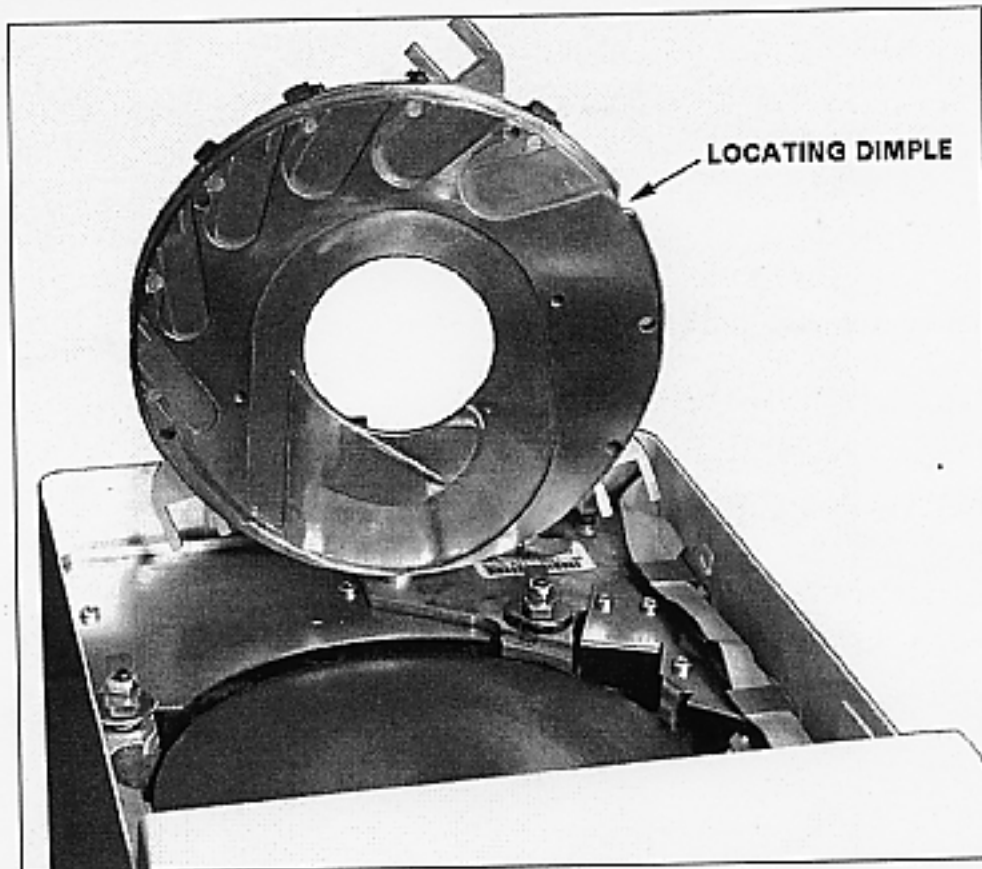

Figure 3 Sort Disk in Vertical Position
3. Lift the sort disk up and turn vertically being careful not to pull the connecting wires from their harness. Place the anchor pin in the mounting hole near the rear of the cabinet -- see Figure 3 on the next page.
SORT DISK INSTALLATION – FIGURE 3
1. Lower the sort disk onto the turntable. Note that the locating dimple (Figure 3) will only allow the disk to drop to the pad when the dimple is next to the matching projection in the base assembly.